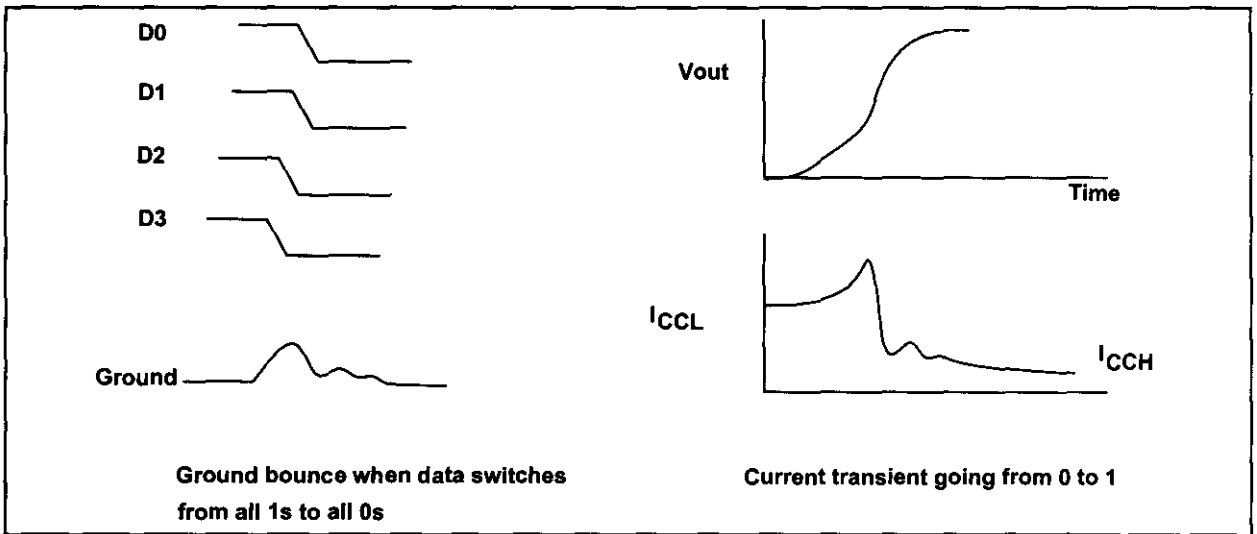

Figure 26-10. Ground Bounce and Transient Current for Output Transitions
2. Use logics with a minimum number of outputs. For example, a 4-output is preferable to an 8-output. This explains why many designers of high-performance systems avoid using memory chips or the drivers and buffers of 16- or 32-bit wide outputs since all the outputs switching at the same time will cause a massive flow of current in the ground pin, and hence cause ground bounce (see Figure 26-10).
In the TTL family, the change of the output from low to high can cause what is called *transient current*. In totem-pole output when the output is low, Q4 is on and saturated, whereas Q3 is off. By changing the output from the low to high state, Q3 becomes on and Q4 becomes off. This means that there is a time that both transistors are on and drawing currents from the  $V_{CC}$ . The amount of current depends on the  $R_{ON}$  values of the two transistors and that in turn depends on internal parameters of the transistors. However, the net effect of this is a large amount of current in the form of a spike for the output current, as shown in Figure 26-10. To filter the transient current, a  $0.01\ \mu\text{F}$  or  $0.1\ \mu\text{F}$  ceramic disk capacitor can be placed between the  $V_{CC}$  and ground for each TTL IC. However, the lead for this capacitor should be as small as possible since a long lead results in a large self-inductance and that results in a spike on the  $V_{CC}$  line [ $V=L (di/dt)$ ]. This is also called  $V_{CC}$  bounce. The ceramic capacitor for each IC is referred to as a *decoupling capacitor*. There is also a bulk decoupling capacitor, as described next.